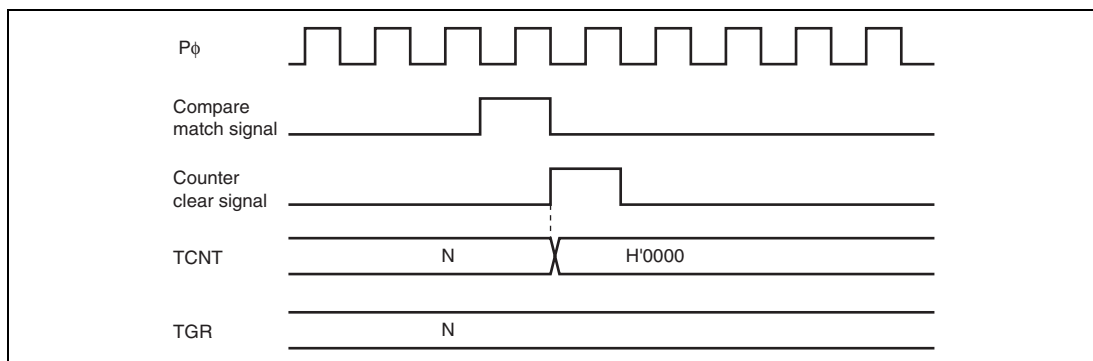
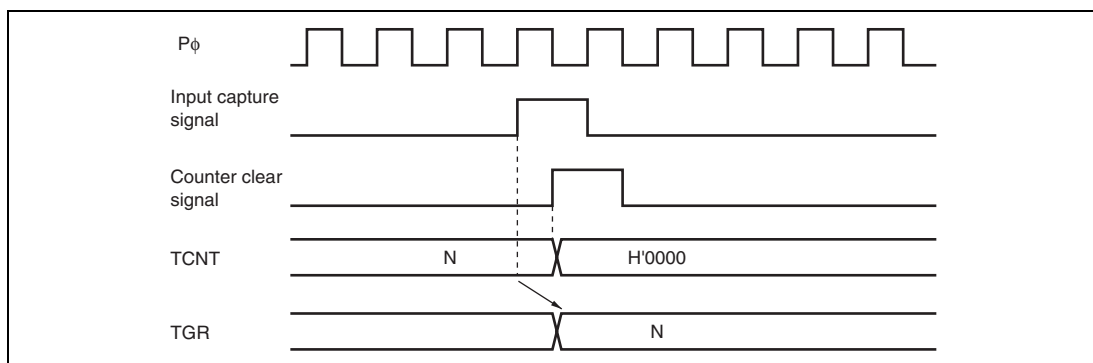

**Figure 11.60 Counter Clear Timing (Compare Match)**
**Figure 11.61 Counter Clear Timing (Input Capture)**
**Timing for Counter Clearing by Compare Match/Input Capture:** Figure 11.60 shows the timing when counter clearing on compare match is specified, and figure 11.61 shows the timing when counter clearing on input capture is specified.